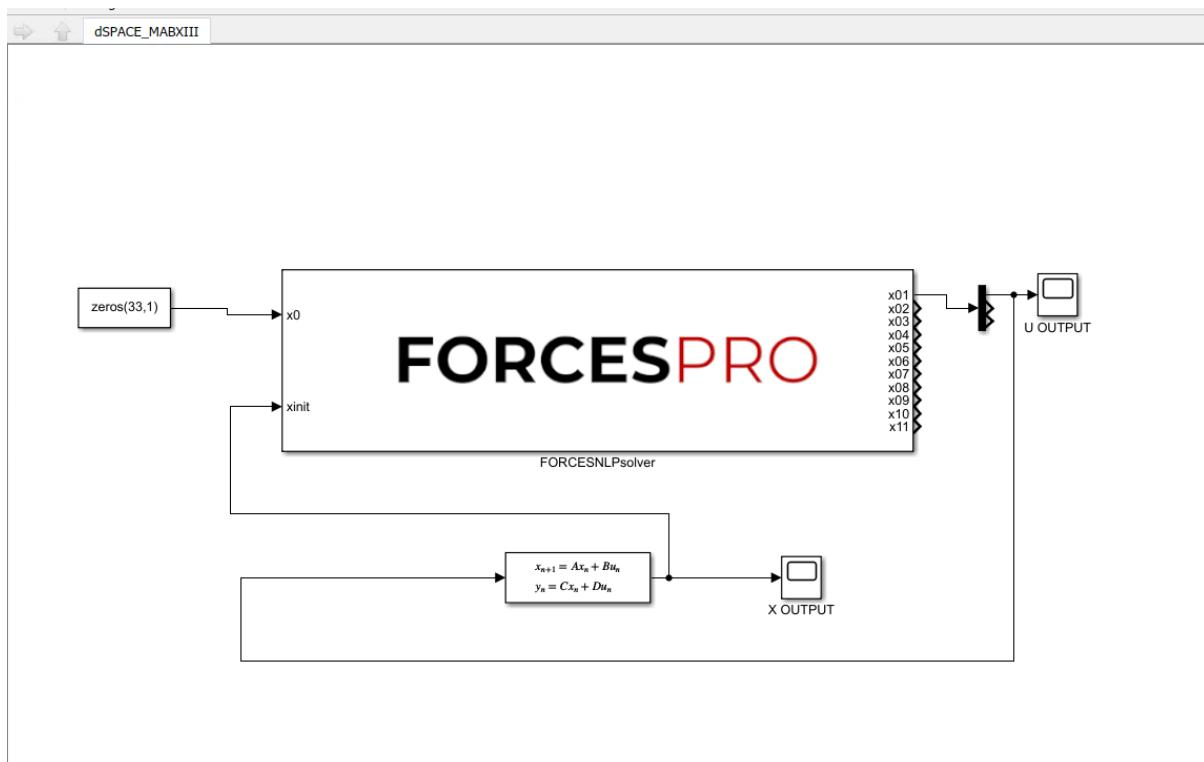

Figure 13.63: Copy-paste and connect the FORCESPRO block.
- 7) Copy-paste the FORCESPRO Simulink block into your simulation model and connect its inputs and outputs appropriately (see Figure 13.63).